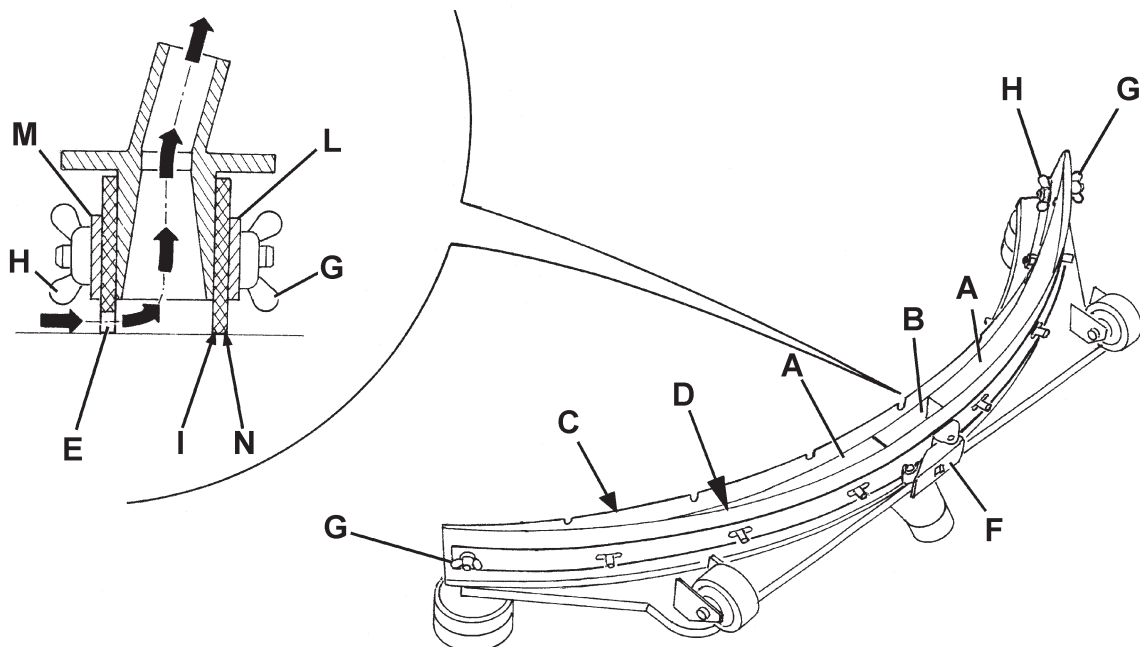

Figure 3
2. Insert the ignition key (41) and turn it to "I".
3. Lower the squeegee (12) with the switch (36).
4. Turn the ignition key (41) to "0".
5. Disconnect the vacuum hose (11) from the squeegee.
6. Loosen the handwheels (15) and remove the squeegee (12).
7. Wash and clean the squeegee. In particular, clean the compartments (A, Fig. 3) and the vacuum hole (B). Check the front blade (C) and rear blade (D) for integrity, cuts and tears; if necessary replace them as shown below.
2. Check that the edges (E and N, Fig. 3) of the front blade (17) and of the rear blade (18) lay down on the same level, along their length; otherwise adjust their height according to the following procedure:
- Disengage the fastener (F) and loosen the wing nuts (G) to adjust the rear blade (D); then tighten the wing nuts and engage the fastener.
- Loosen the wing nuts (H) and adjust the front blade (C); then tighten the wing nuts.
3. Check the front blade (C) and rear blade (D) for integrity, cuts and tears; if necessary replace them as shown below. Check the front corner (I) of the rear blade for wear; if necessary, overturn the blade to replace the worn corner with an integral one. If the other corners are worn too, replace the blade according to the following procedure:
- Disengage the fastener (F), remove the wing nuts (G) and the retaining strip (L), then replace (or overturn) the rear blade (D). Install the blade in the reverse order of removal.
- Remove the wing nuts (H) and the retaining strip (M) then replace the front blade (C). Install the blade in the reverse order of removal.